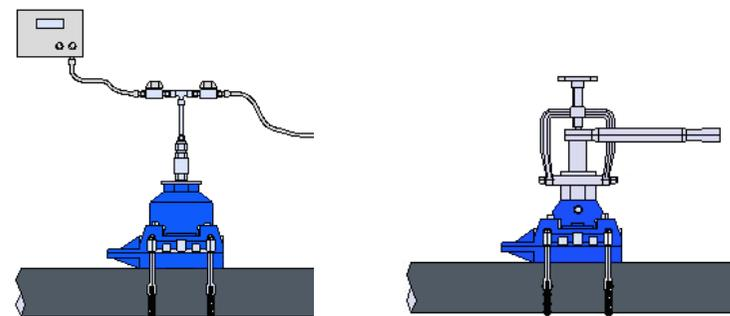

Figure 12a - Pressure testing tee-set Figure 12b - Tee-set ready for drilling
The air test should be applied from either the test point installed into the drilling housing, (Figure 12a), or by using the fitting housing with a pressure test assembly (see Figure 12b below).
- When tested as shown in Figure 12a - Pressure testing tee-set the pressure gauge used for this operation must be left on during the drilling operation and used to monitor the mains operating pressure.
- Check that the valve is open and lower the drill spindle (3) onto the main.
- Position the ratchet handle with the chamfer upward on top of the drilling spindle and swing the bridle (2) into position.